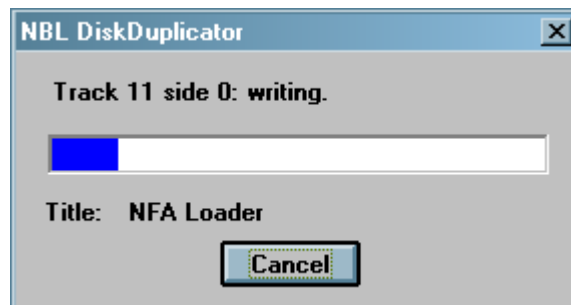

Figure 6
5. Click "OK" and wait for the Firmware Upgrade Executable to create the "NFA Loader". The text box shown in **Figure 6** will be displayed as the tracks are recorded onto the diskette. There are (79) total tracks.